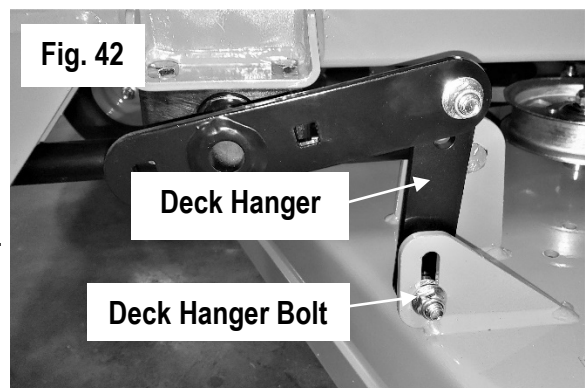

Fig. 42
4. Using a pair of $\frac{9}{16}$ " wrenches, loosen all deck hanger bolts on the top of the deck. These are the lower bolts in the slots of the deck as shown in Fig. 42. Do not loosen the upper bolts that attach the deck hangers to the actuator lift bars.